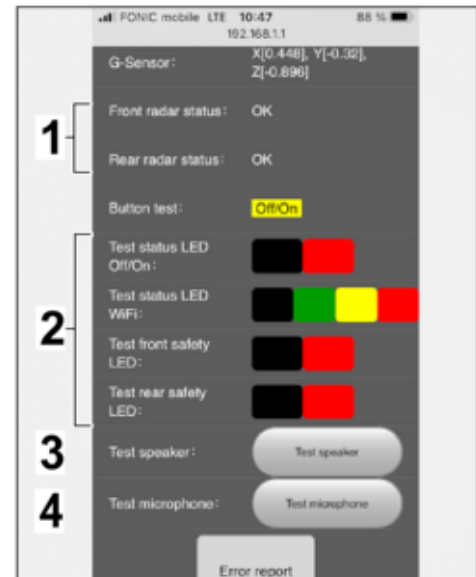

Figure 32
6.3 Display of radar status, test options for LED lights, loudspeaker and microphone (⇒ *Figure 32*)